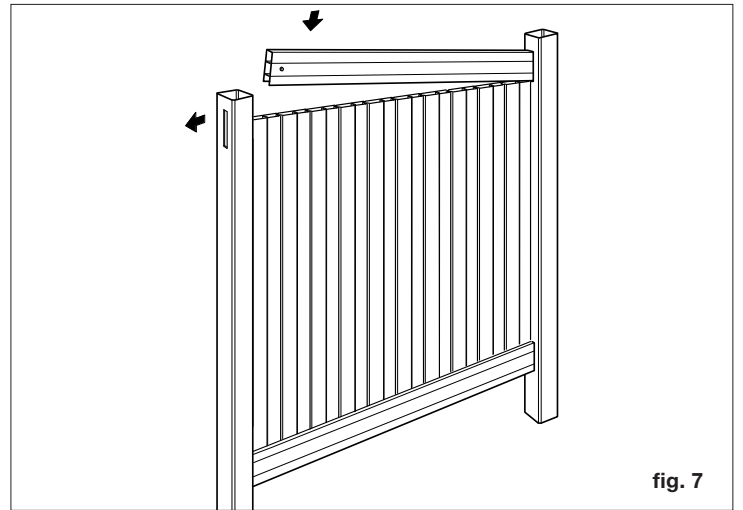

fig. 7
**STEP 5** – When all pickets have been placed, secure the top rail to the top routed hole in the first post. Working from one side to the other, slide the rail over the pickets. In order to fasten the rail into the second post, shift the post slightly until the rail can be fitted (fig. 7). Once the rail is securely locked in, the pickets will form a solid panel.